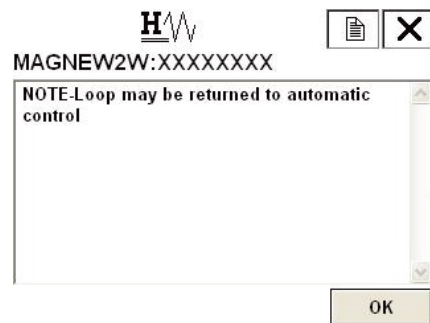

Fig. 7-81.
3. Note of caution will appear as shown in Fig. 7-81. To proceed, press F4 (OK).